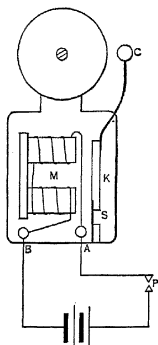

Fig. 135. Single-stroke electric bell.
74. Electric Bells. The simplest single-stroke bell is constructed as in Fig. 135. When the button *P* is pushed, the battery sends a current through the coils of the electro-